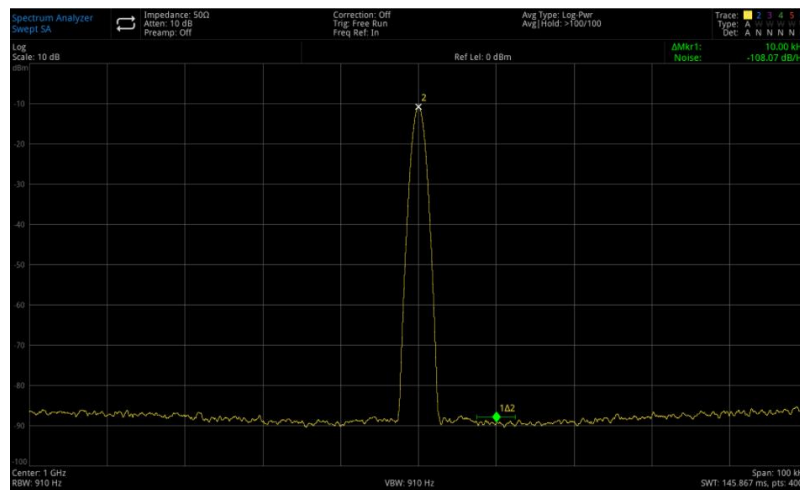

Figure 3-20 Phase Noise
7. Open **Mark Function > Mark Noise** as shown in Figure 3-20